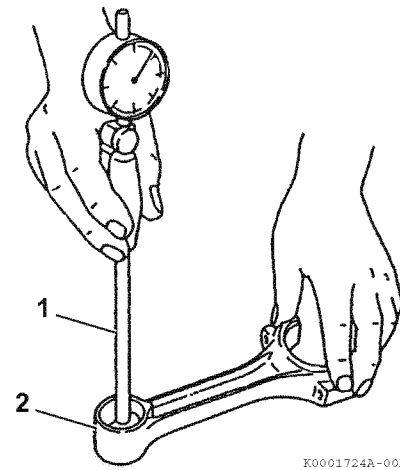

Figure 6-66
- Measure the wrist pin bushing bore using a bore gauge (Figure 6-66, (1)). Replace the bushing if not within specifications. If the bushing has been removed, measure the inside diameter of the connecting rod small end (Figure 6-66, (2)). Record the measurements. See *Connecting Rod* on page 6-9 for specifications.